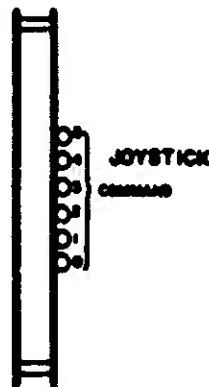

Figure 2-7. JS-100 CONTROL INTERFACE
**2.2.4.3 JS-100 Control Interface** - The JS-100 is the interface between the joystick and the rest of the ATR System. The circuit card takes the six bits of parallel data produced by the joystick and transmits them as RS232 serial data at 1200 baud. The six bits of joystick data are padded to eight bits so that the joystick command can be interpreted as a legitimate ASCII character by the MicroTICCIT terminal. The LEDs on the front of the card indicate the values for the six parallel joystick lines (Figure 2-7).